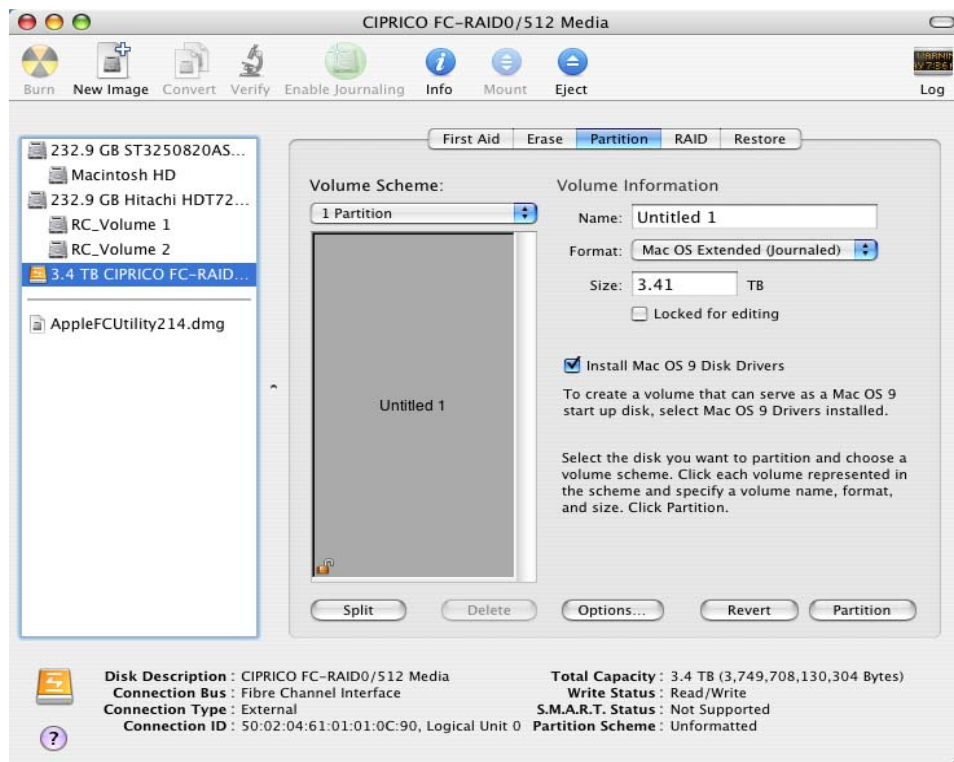

FIGURE 6-5. The Apple Disk Utility Screen, After Selections Are Made.
2. At the “Volume Scheme:” field choose “1 partition”. See Figure 6-5.
3. At the “Name:” field, under “Volume Information,” choose a name for the volume. See Figure 6-5.
4. In the “Format:” field, select “Mac OS Extended (Journaled)”. See Figure 6-5.
5. Click the **PARTITION** button at the lower right of the screen. See Figure 6-5.